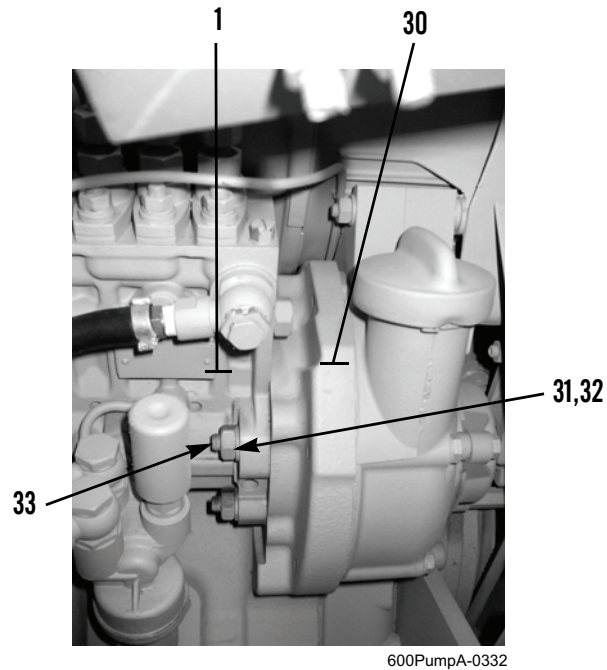

Figure 27. Fuel Injection Pump Mounting.
1. Install fuel injection pump (Figure 27, Item 1) on studs (Figure 27, Item 33) at engine block (Figure 27, Item 30) with four washers (Figure 27, Item 32) and nuts (Figure 27, Item 31). Do not fully tighten nuts.